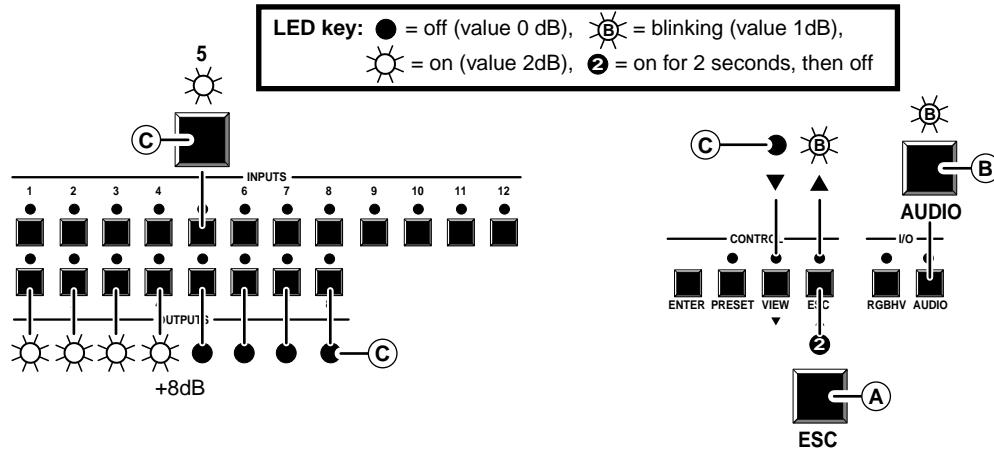
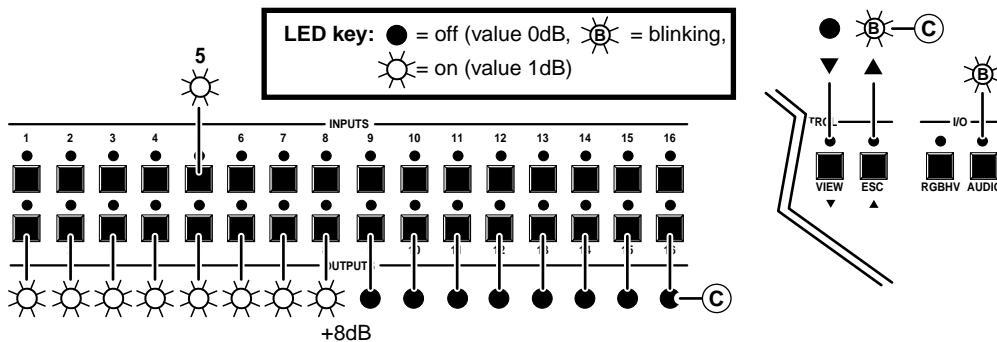
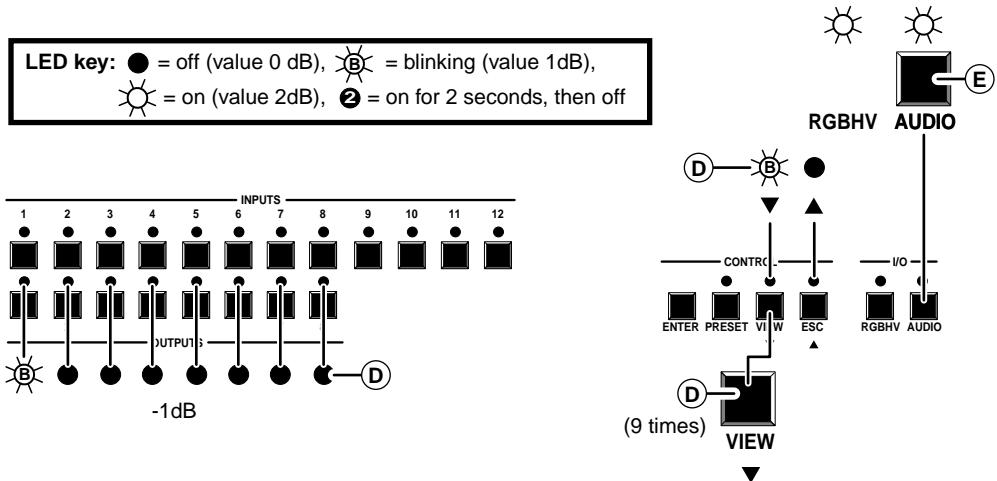
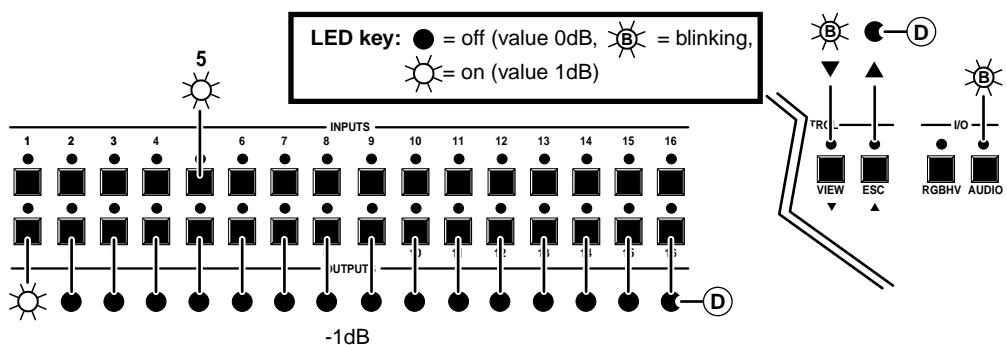

Figure 33 — Example 7: Viewing the audio level, CrossPoint Plus 84, 88, 124, and 128
Figure 34 — +8dB displayed, CrossPoint Plus 168 and 1616
Figure 35 — Example 7d: Adjusting the audio level, CrossPoint Plus 84, 88, 124, and 128
Figure 36 — -1dB displayed, CrossPoint Plus 168 and CrossPoint Plus 1616
Refer to figure 33, figure 35, and the following steps for an example of viewing and adjusting the audio level. Audio gain and attenuation is displayed differently on the CrossPoint Plus 168 and 1616, but the steps for displaying the value are the same. For this reason, figure 34 and figure 36 show the indications displayed on the CrossPoint Plus 168 and 1616 without duplicating all of the actions shown in figure 33 and figure 35.
Figure 33 and figure 34 show an audio level of +8dB displayed in the output LEDs on the two different CrossPoint Plus front panels.
- (D) Press and release the View (▼) button once to decrease the audio level displayed in the output LEDs by 1dB. Press and release the View (▼) button several more times to decrease the audio level displayed in the output LEDs by an additional 1dB per button push. Note the output LED, View LED, and Esc LED changes that occur each time the View (▼) button is pressed and released. Figure 35 and figure 36 show the result of pressing the View (▼) button a total of 9 times.